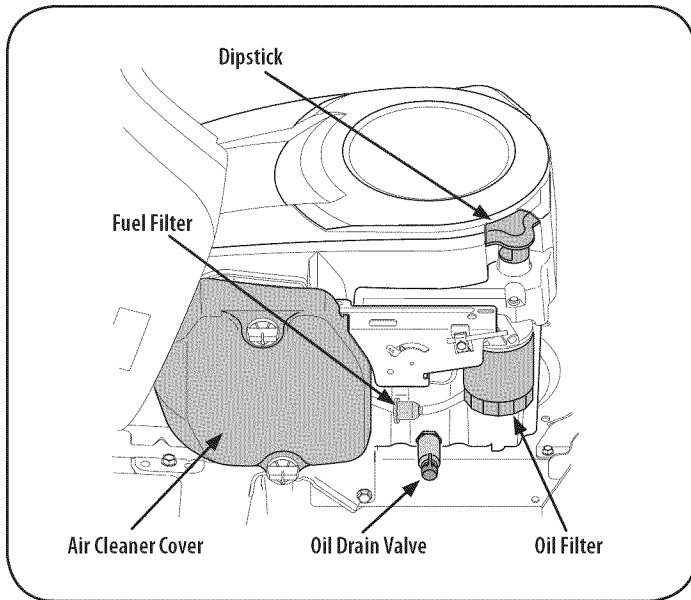

Figure 12
1. Remove the dipstick, see Figure 12, and wipe with a clean cloth.
7. Replace the oil filter, see Figure 12, by removing and disposing of it properly.
1. Locate the fuel filter, see Figure 12, which is routed on the left side of the engine between the fuel tank and the carburetor, and may be attached to the engine with a tie strap. Cut the tie strap, if present, then pinch the tabs on the in-line clamp on the fuel filter with a pair of pliers, slide the clamp up the fuel line. Pull the fuel line free from the filter and place the open end of the line into an approved container to drain the fuel.